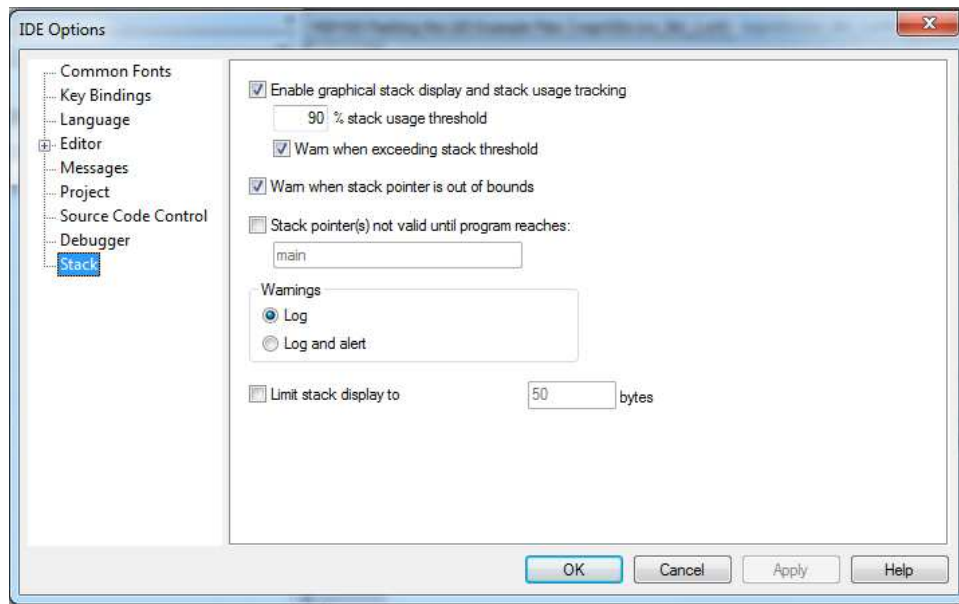

Figure 1.14: Tools options stack window.
14. Assuming you entered the code with no errors, you might still get the Stack Warning window with a warning message. If it shows up, just ignore it and click OK. Now go to Tools > Options > Stack and uncheck the Stack pointer(s) not valid until program reaches: option. Click OK. Refer to Figure 1.14.